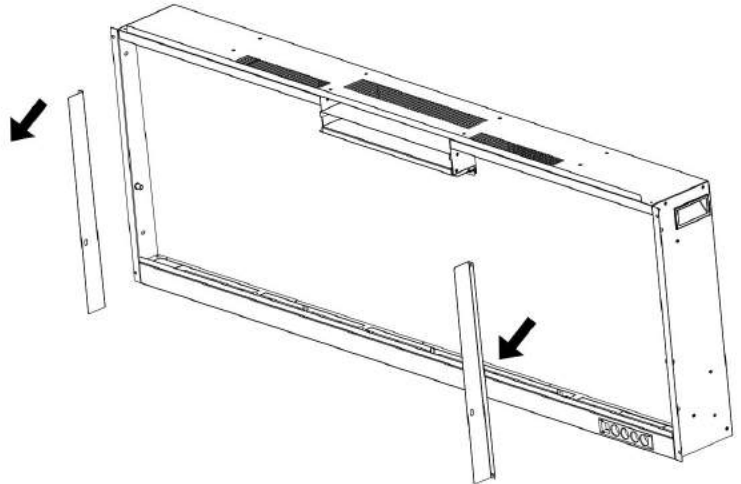

Fig. 2-2
- B. Remove the two brackets and set them aside.(Fig. 2-2)